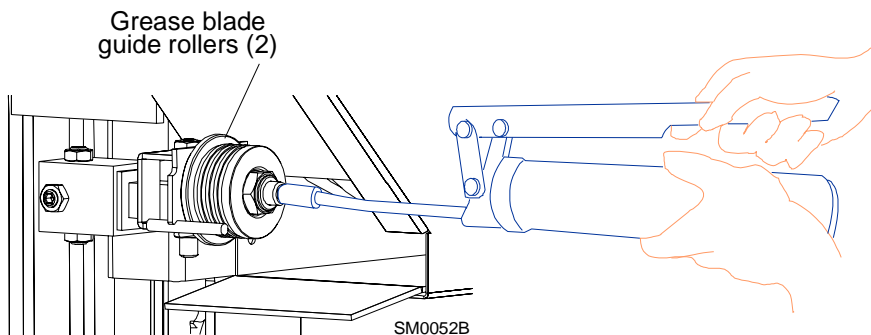

FIG. 3-1
1. Lubricate the blade guide rollers every four hours of operation. Use one squeeze of a NLGI No. 2 grade lithium grease from a grease gun to lubricate the bearings and remove any sawdust. See **Figure 3-1**.